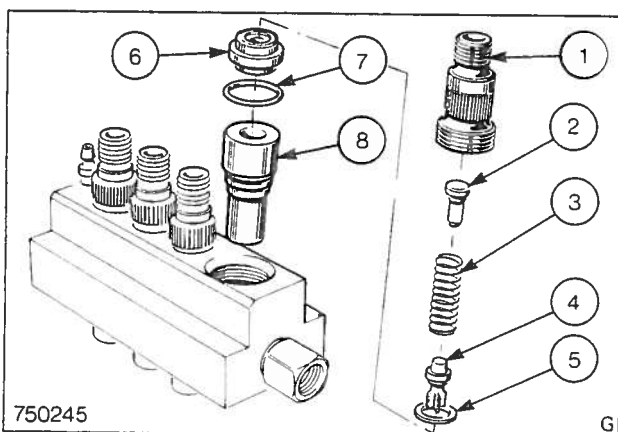

Fig. 23 Reassembling the pump body
15. Locate the pump barrels in the body, ensuring that the master splines are fully engaged. Replace the delivery valve guides, delivery valves, sealing washers, delivery valve springs and volume reducers, Fig. 23.